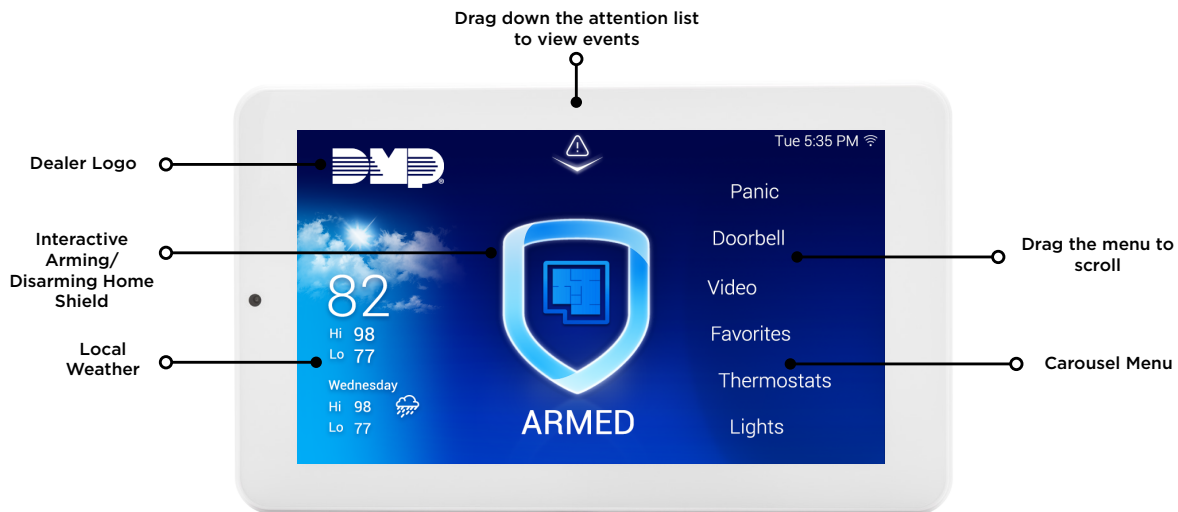

Figure 1: Keypad Layout
1. Route the keypad wires through the cutouts in the base. See Figure 1.